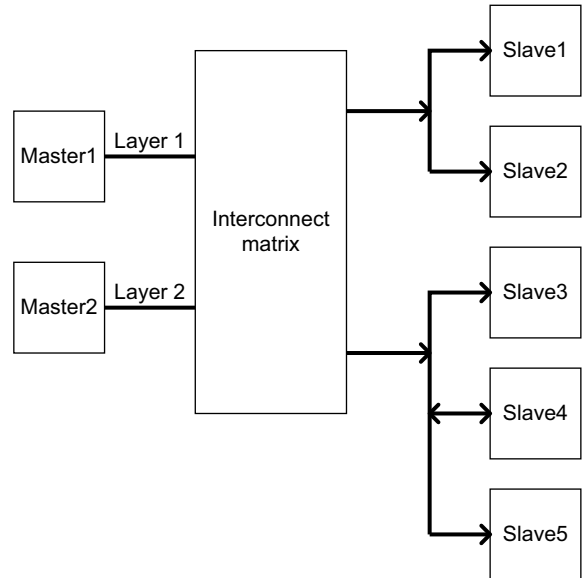

Figure 1-4 Multiple slaves on one slave port
- Figure 1-4 on page 1-5 shows how you can make multiple slaves appear as a single slave to the interconnect matrix. This is useful to combine a number of low-bandwidth slaves. You can also use it where a set of slaves are normally accessed by just one master, such as a DMA controller, and the interconnect matrix is used only to give access to other masters under special circumstances, such as debugging the system.